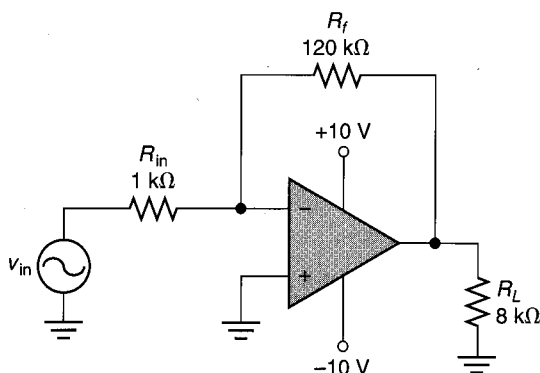

FIGURE 15.52
3. Determine the maximum peak-to-peak output voltage for the amplifier in Figure 15.52.